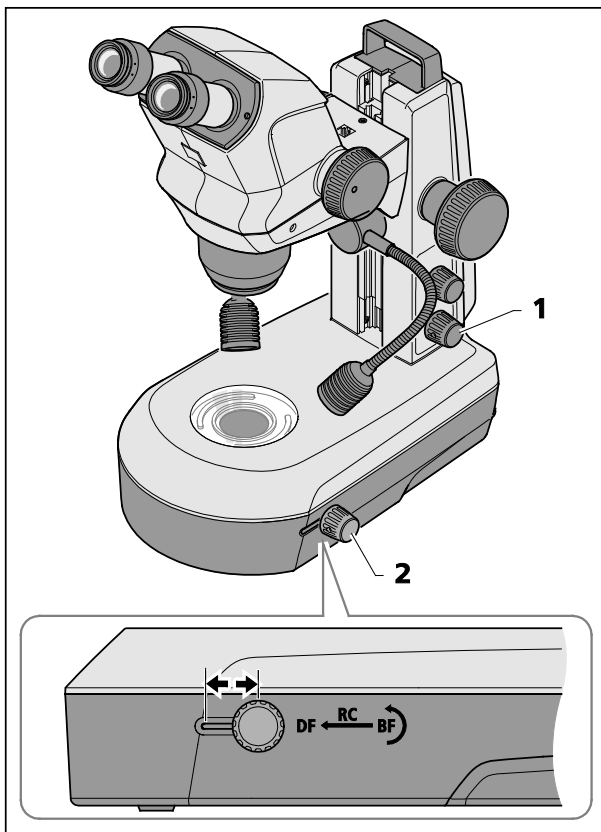

Fig. 21 Transmitted-light unit in stand K LAB
- Switch transmitted-light illumination ON by pressing the lower knob (Fig. 21/1).
- Adjust the bright field (BF) by pushing the sliding knob (Fig. 21/2) into its rear position (BF).
- Turn the rotary knob / slider (Fig. 21/2) to swing the clear or diffuse mirror in position or to adjust the inclination angle.
- Change over to dark field illumination (DF) by pushing the rotary knob / slider (Fig. 21/2) into its front position.
Oblique light effects (RC) are produced by pushing the rotary knob / slider (Fig. 21/2) into its central position and by tilting the mirror.